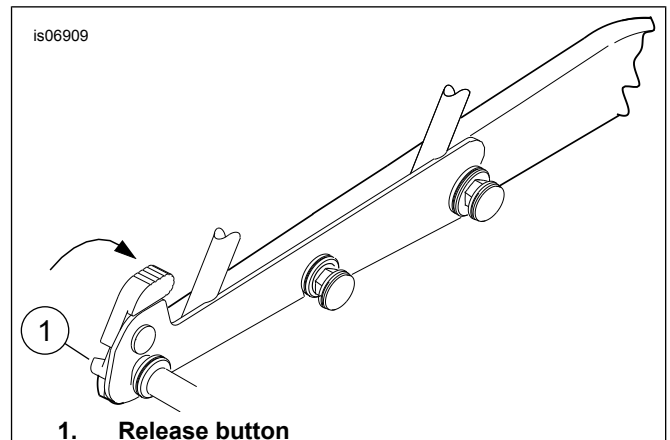

Figure 10. Close rotary latches by pushing latch fully forward.
3. See Figure 10. Push downward and close the rotary latches by pressing the latch lever as far forward as it will go as shown. You will hear a click when the latch is in place. **If the latch does not easily close, do not force.** Recheck alignment as described in Step 2.
4. To remove the rack, press the release button shown in Figure 10, and pull the rotary latch lever back. Carefully lift the rear of the rack up and pull the rack out of the front docking points.